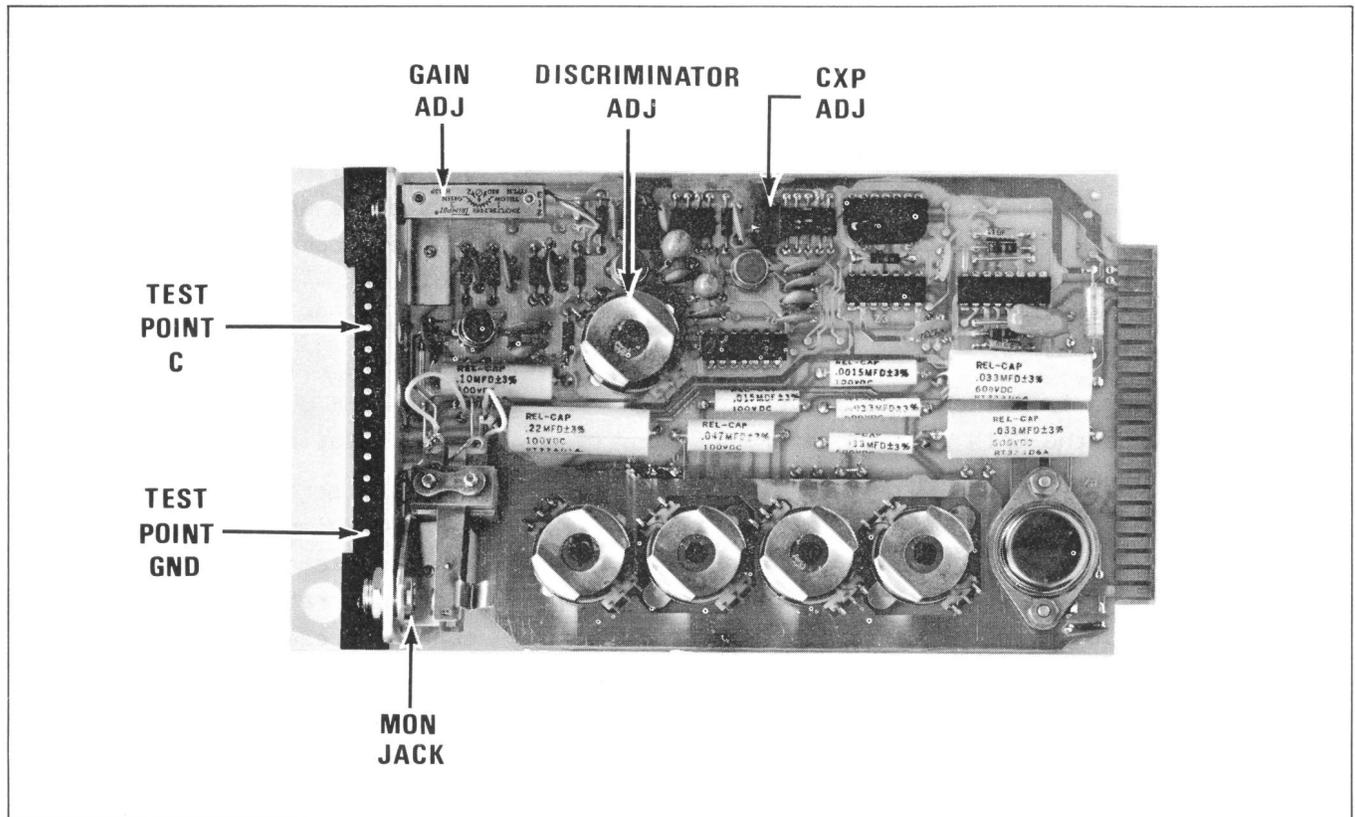

Figure 31—Card 001492—Component Arrangement
4. Using a nonmetallic adjustment tool, carefully adjust the DISCRIMINATOR ADJ slug (Figure 31) for a minimum reading, typically 0.1 VDC.
5. With the screwdriver adjust the CXP ADJ trimpot (Figure 31) until relay K8 on Card 001561 (Figure 21) just drops out. This is the carrier presence threshold.